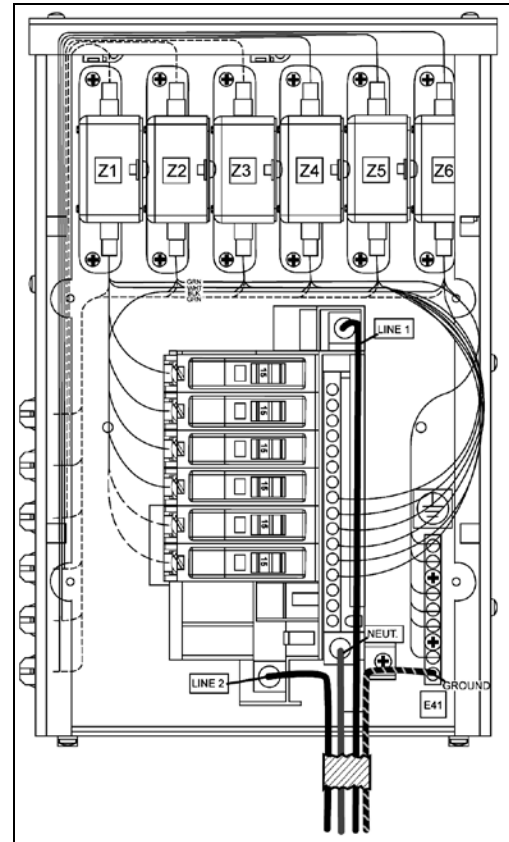

Figure 8: 120/240 V Single-Phase Power Termination
4. Connect the neutral wire to the neutral lug and the live wires to Line 1 and Line 2. Refer to **Figure 8**.